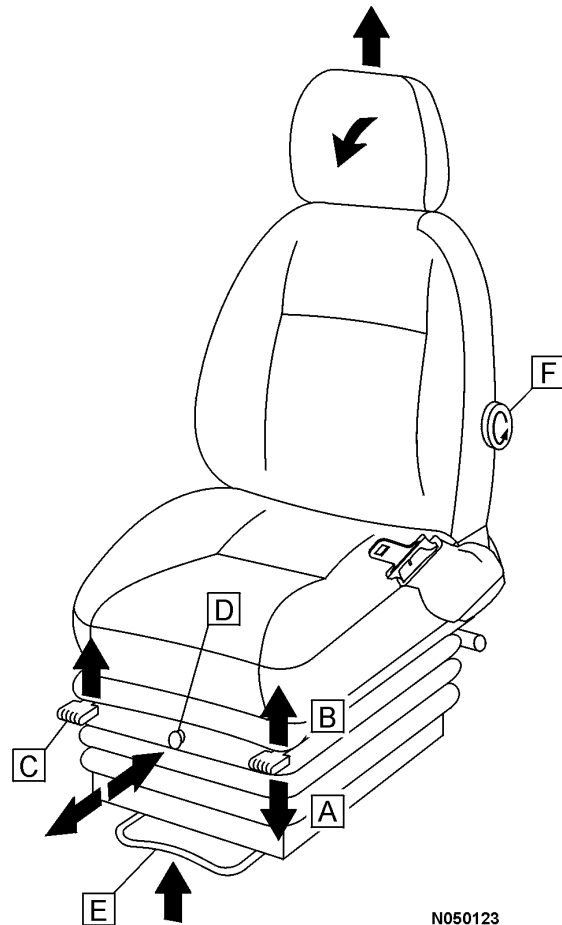

FIGURE 3-5. OPERATOR SEAT
1. **Height Adjustment** - is made by using the height adjustment lever, located on the left front corner of the seat just below the seat cushion (Figure 3-5). Pushing DOWN [A] on the lever causes the front of the seat to tilt up or down. Pulling UP [B] on the lever causes the rear of the seat to tilt up or down. By alternately tilting the front, and then the rear, of the seat, the height of the seat is changed.
2. **Weight Adjustment** - Firmness of the ride is adjusted by using the weight adjustment knob on the front center of the seat, just below the cushion ([D], Figure 3-5). PUSH IN the weight adjustment knob to increase the air pressure in the seat, increasing the stiffness of the seat for a firmer ride (less vertical movement). For a softer ride (more vertical movement), PULL OUT the weight adjustment knob to reduce air pressure and decrease the stiffness of the seat. Adjust the firmness by pushing in the weight adjustment knob. The amount of air pressure may need to be increased or decreased slightly after the truck is operating to adapt to varying haul road conditions. The seat will raise slightly when adding air.
3. **Backrest Angle** - is adjusted by pulling up on the lever ([C], Figure 3-5) located on the right front corner of the seat just below the cushion, and leaning forward or backward.
4. The **Front-To-Rear** position of the seat is adjusted by pulling up on the bar located at the base of the seat in the center ([E], Figure 3-5), then sliding the seat horizontally.
5. The **Lumbar Support** has 5 positions that are mechanically selected by rotating the round knob ([F], Figure 3-5) located on the left side of the backrest. It can be adjusted so that there is no lumbar support. Adjust the lumbar support by rotating the knob to the desired position.